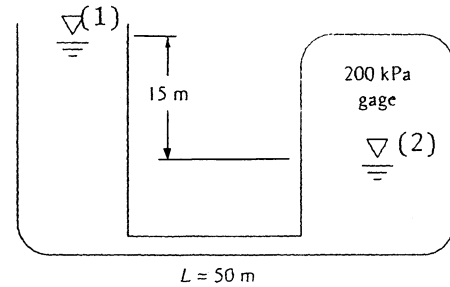

Fig. P6.78
**6.78** In Fig. P6.78 the connecting pipe is commercial steel 6 cm in diameter. Estimate the flow rate, in  $\text{m}^3/\text{h}$ , if the fluid is water at  $20^\circ\text{C}$ . Which way is the flow?
**Solution:** For water, take  $\rho = 998 \text{ kg/m}^3$  and  $\mu = 0.001 \text{ kg/m}\cdot\text{s}$ . For commercial steel, take  $\varepsilon \approx 0.046 \text{ mm}$ , hence  $\varepsilon/d = 0.046/60 \approx 0.000767$ . With  $p_1$ ,  $V_1$ , and  $V_2$  all  $\approx 0$ , the energy equation between surfaces (1) and (2) yields